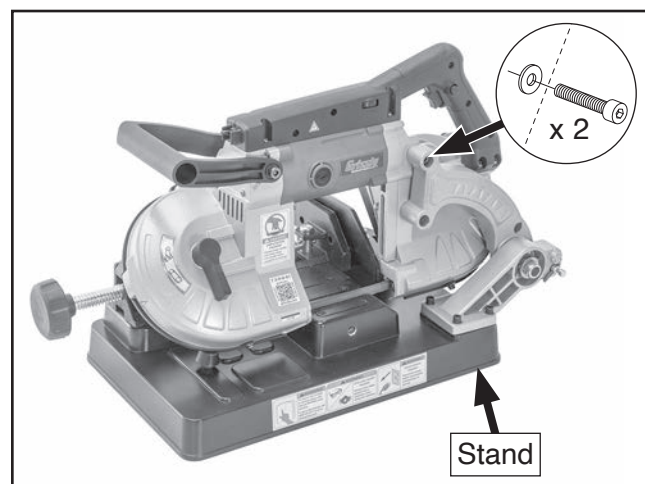

Figure 10. Bandsaw attached to stand.
2. Attach bandsaw to stand with (2) M8-1.25 x 25 cap screws and 8mm flat washers (see **Figure 10**).